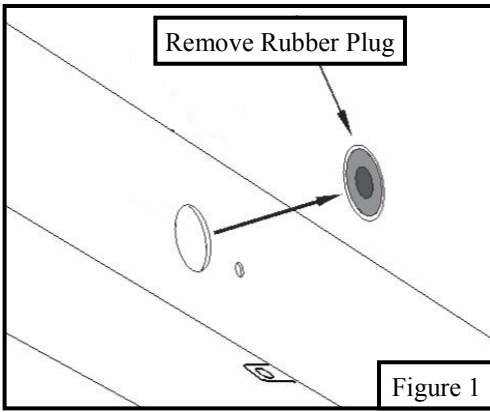
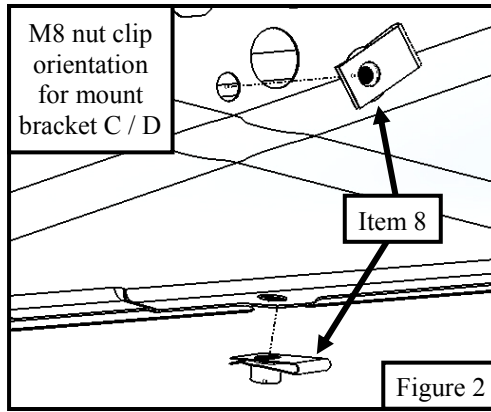

Figure 1
Figure 2
- Proceed to the passenger side rocker panel and locate the black rubber plugs and remove them see **Figure 1**. For bracket C (Item 3) mount location, install M8 nut clip (Item 8) as shown in **Figure 2**. Proceed to install the remaining M8 nut clips as shown in **Figure 3**.
2. Proceed to the passenger side rocker panel and locate the black rubber plugs and remove them see **Figure 1**. For bracket C (Item 3) mount location, install M8 nut clip (Item 8) as shown in **Figure 2**. Proceed to install the remaining M8 nut clips as shown in **Figure 3**.